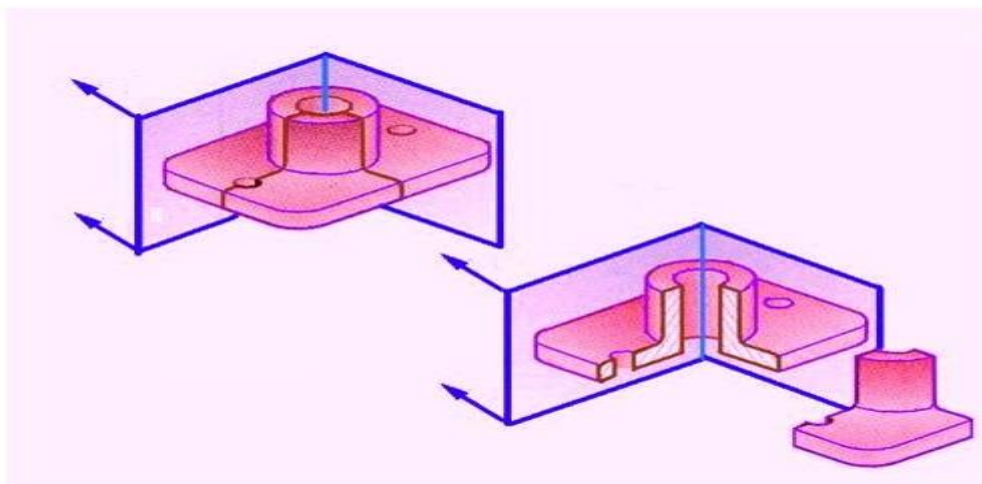

Figure 2. Illustrating a half section view
- (b) **Half section view**, where the section plane goes half-way through the object. Example shown in figure 2.